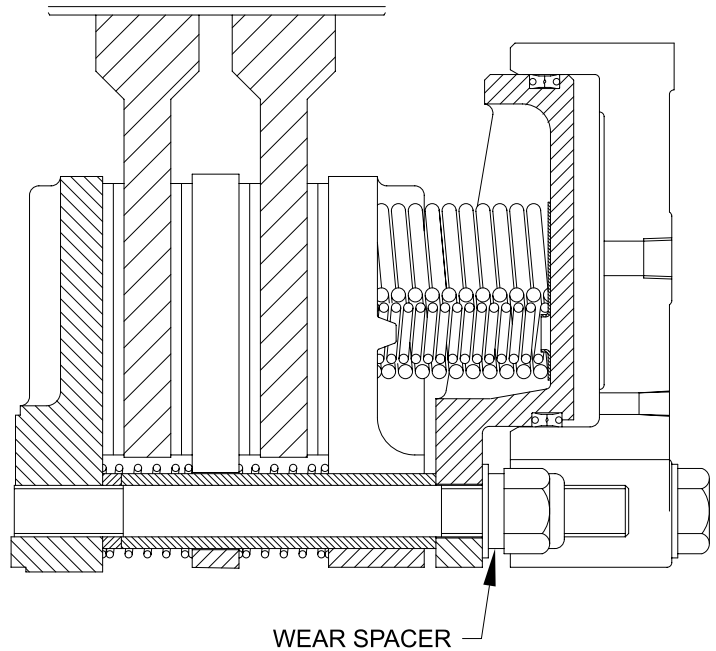

Figure 10
- 4.2.2.9 Lubricate the threads on the ends of the studs with 30 wt. oil or anti-seizing compound and install the locknuts (18), washers (17) and the wear spacers (29) removed in 4.2.2.5. The wear spacers are "stored" under the locknuts for use after replacing friction discs (8). See Figure 10.